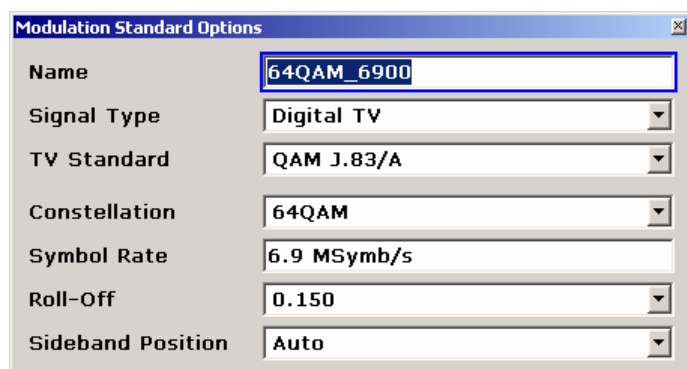

Fig. 2-67 Digital TV modulation standard 64QAM\_6900
- The **Modulation Standard Options** dialog box should now look as in Fig. 2-67.